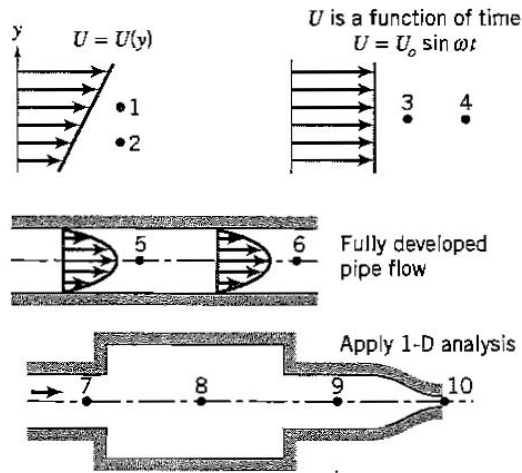

Figure P4.5
4.5 For the flows shown in Figure P4.5, give reasons why Bernoulli's equation can or cannot be used between points: